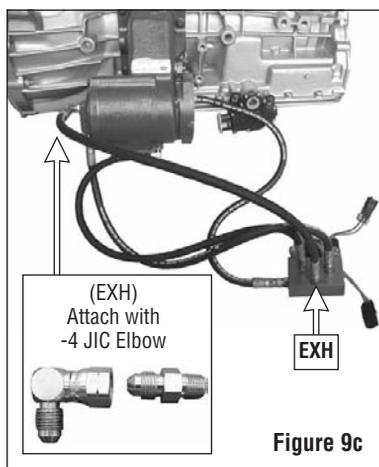

Figure 9c
- 23.** Locate the remaining hose which also has two JIC swivel hose ends. Connect one end to the "EXH" port on the solenoid block. The other end can be connected to a 90 degree JIC to JIC fitting supplied with the kit and then connect to the fitting in the end cover. *Figure 9c*